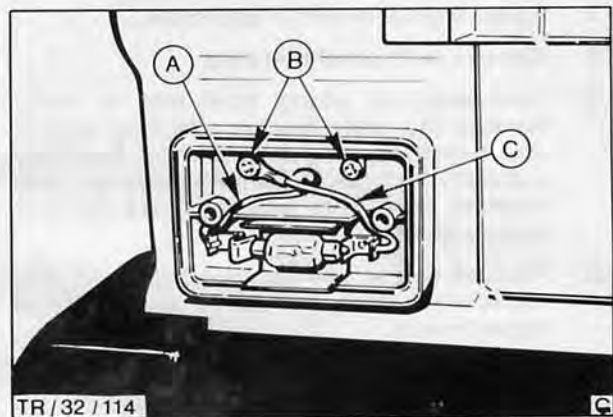

Fig. 14. A – Feed wire
7. Refit lamp to vehicle, secure with screws, ensure earth lead is fitted under mounting screw, Fig. 14.